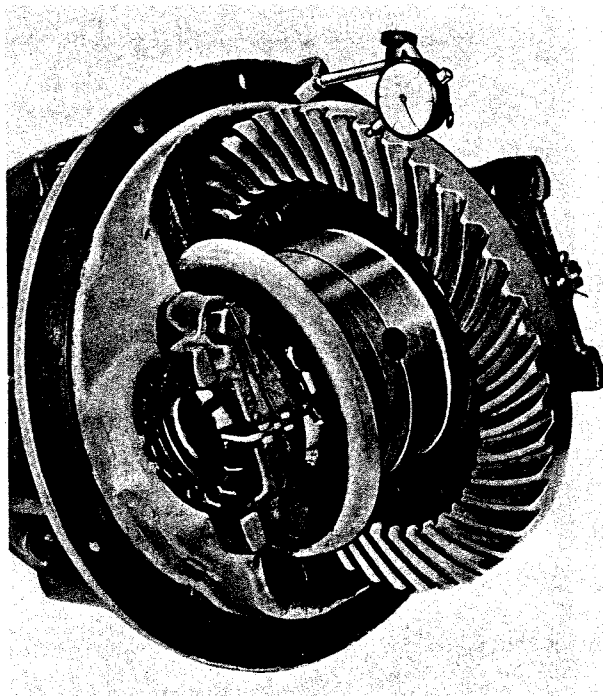

Fig. 219. Measuring Ring Gear Backlash with Dial Indicator.
6. Tighten differential bearing cap screws to correct torque then measure ring gear movement with a dial indicator (see fig. 219) to determine specific backlash.
4. To adjust ring gear backlash, loosen right-hand bearing cage and tighten left-hand bearing adjuster (*the same number of turns*) until 0.006 to 0.016 inch backlash is obtained. Measure backlash with a dial indicator (see fig. 219).